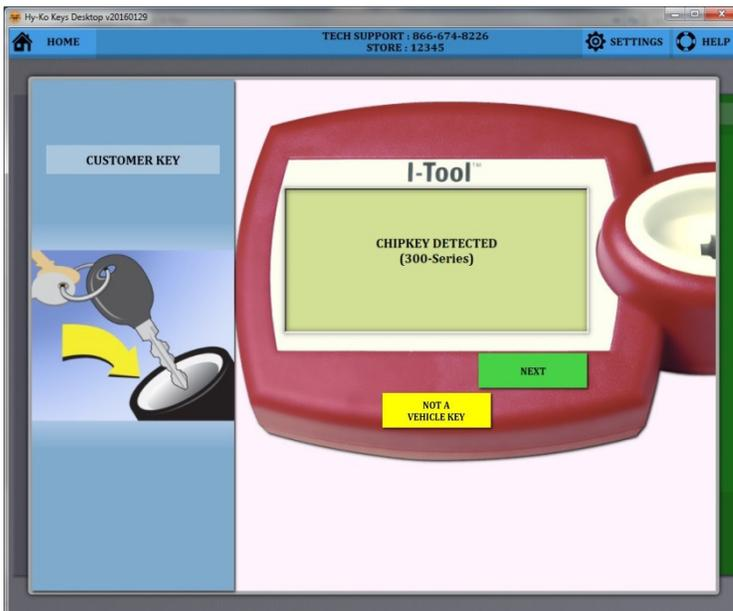

fig. 78
- When I-Tool has completed reading the customer's key, the type of chipkey is displayed on the picture of the I-Tool on the software (see fig. 78).